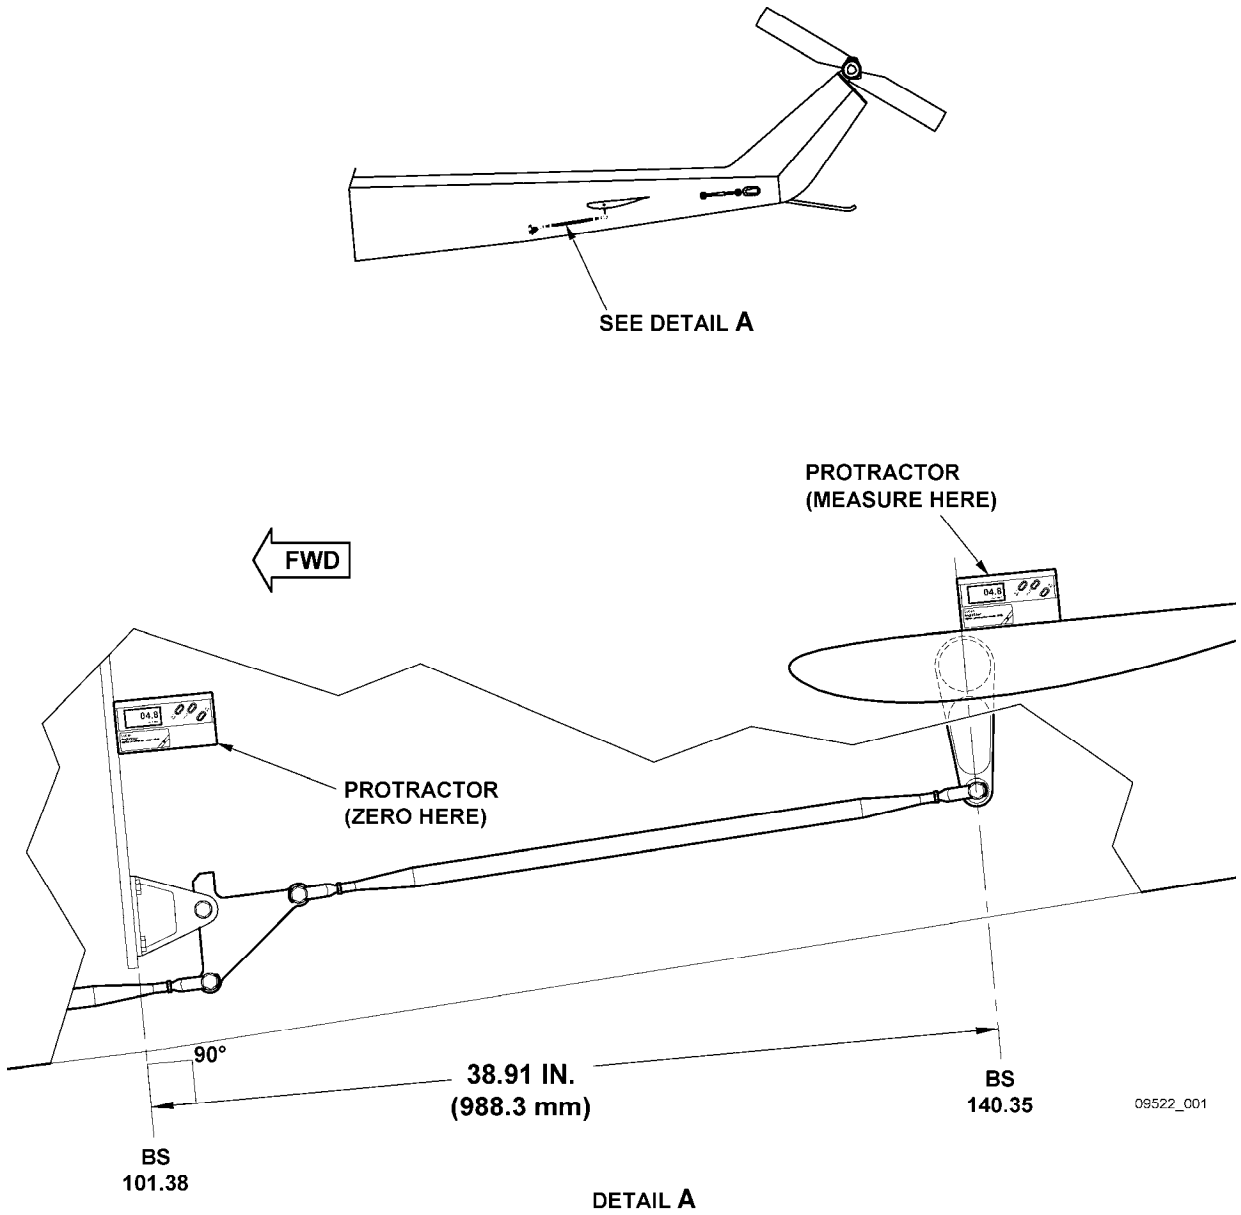

Figure 1
3. Remove tailboom belly access panel just aft of Boom Station (BS) 101.38.
4. Using a measuring tape, position center of elevator horn control bolt at 38.91 +/- 0.03 inches (989.8 +/- 0.8 mm) from (and perpendicular to) the aft face of bulkhead at BS 101.38. Refer to Figure 1. Move cyclic controls as required and apply cyclic control friction when done.